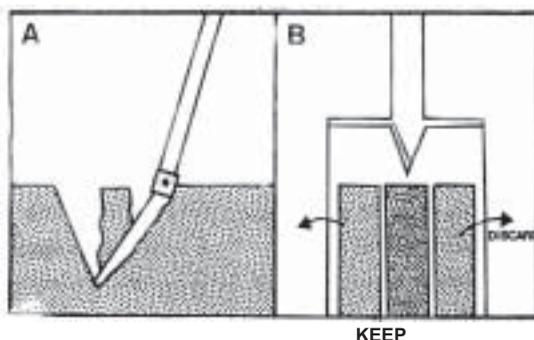

Figure 4
b) spade: dig a V-shaped hole into the ground 2cm below the sampling depth (fig. 4)